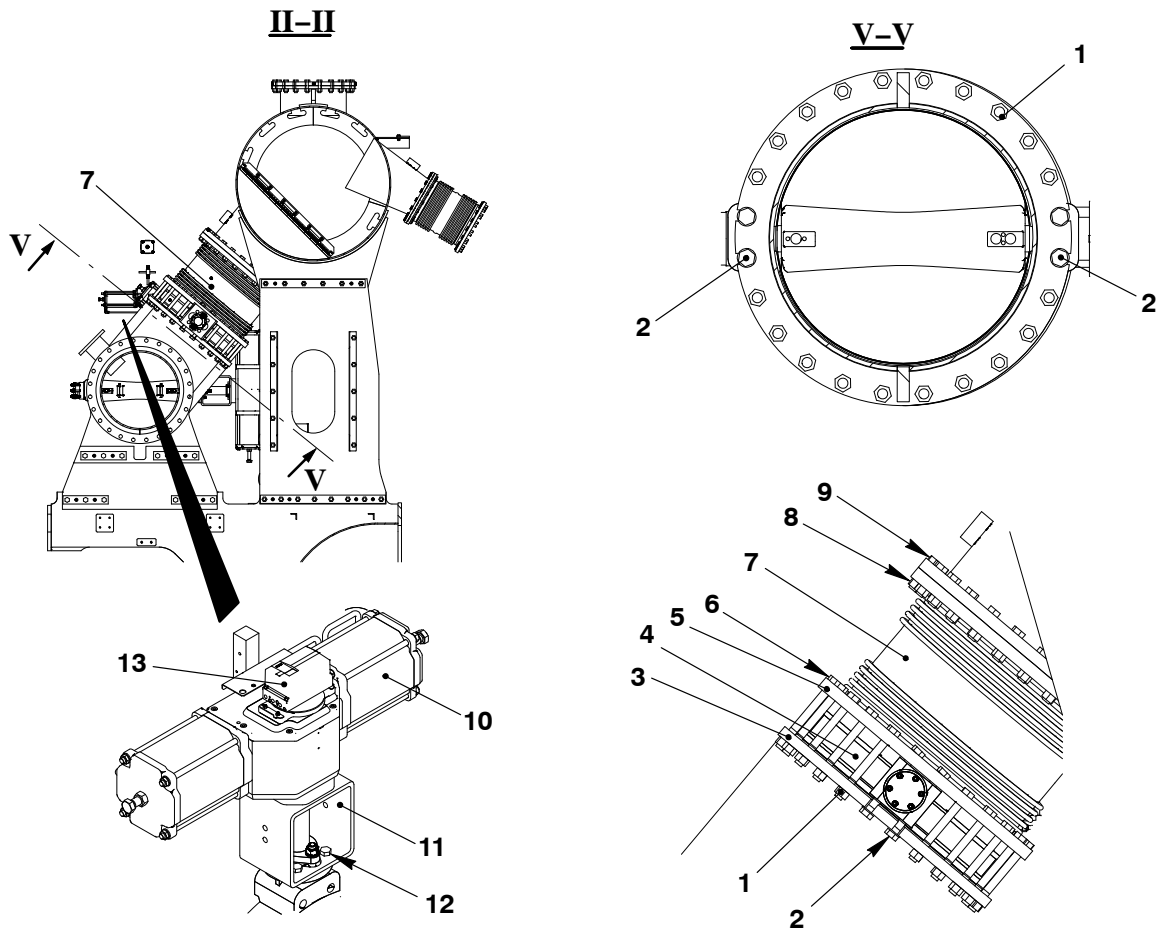

Fig. 4
- 6) Operate the engine room crane to lift the SCR valve (2).
- 7) Operate the engine room crane to lower the SCR valve into position (Fig. 4).
- 10) Attach the SCR valve (4) to the flange (3) with the four M27x80 screws (2).
- 11) Torque the four screws (2) to the value given in 0352 2/A1.
- 12) Put the sling (94049F) around the expansion piece (7).
- 14) Operate the engine room crane to lift and move the expansion piece (7) into position.
- 15) Lower the expansion piece (7) into position on to the SCR valve (4).
- 16) Put the flange (5) in position.
- 17) Attach two of the M27x280 bolts (6) and nuts (1) to the top and bottom of the flanges (3, 5).